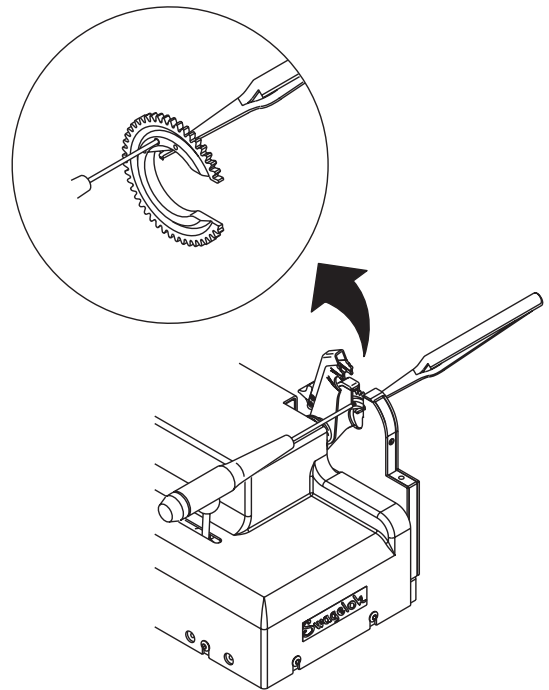

Figure 16 *Loosening the Electrode Set Screw*
6. Loosen the electrode set screw with the hex drive. See Figure 16.
8. Install a new electrode using the tweezers. Insert the electrode through the ceramic insulator and into the rotor to its full insertion depth. Make sure the sharp tip of the electrode is pointing out. See Figure 16.